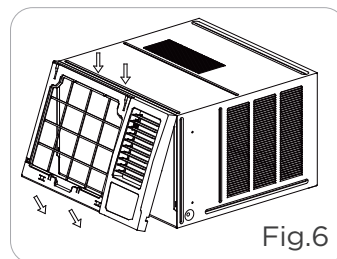

Fig.6
1. Hook the upper edge of the frame(see Fig.6).